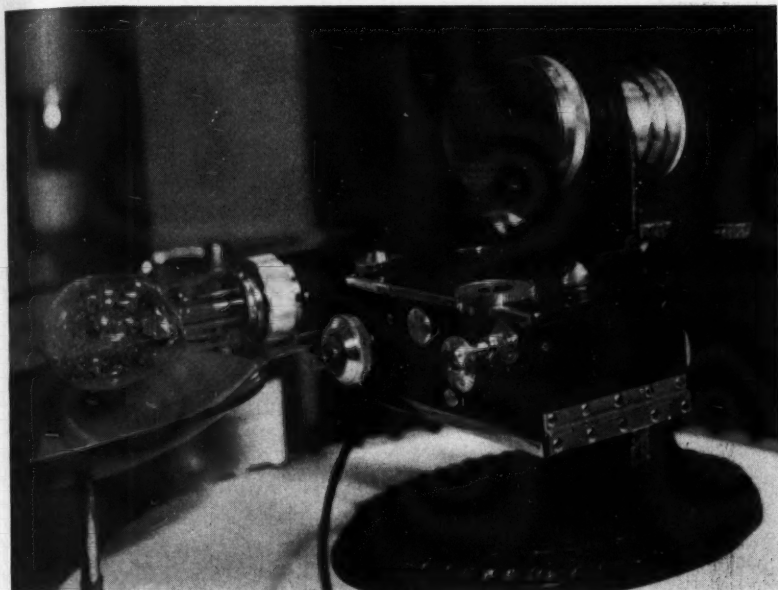

Fig. 2—Ground glass screen brought down into position.
2. The ground glass screen is brought down into position (Fig. 2).